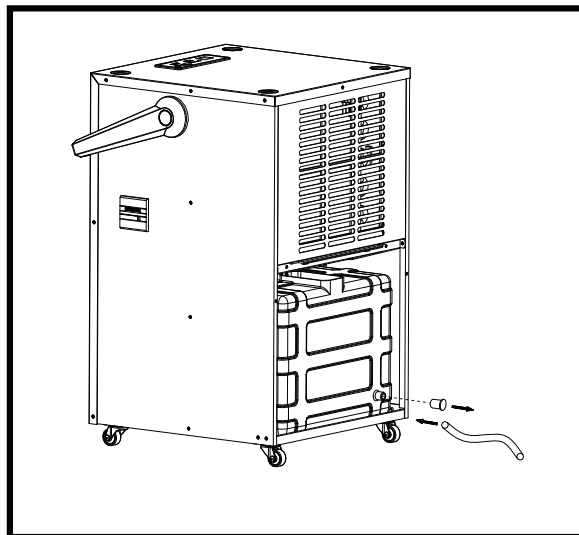

Fig. 7
- Connect the drain tube to the water outlet (FIG. 7) and put the other end into a drain.